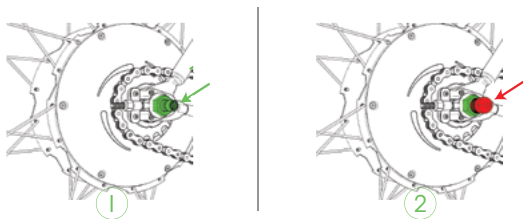

Figure 1: 6-pin charging connector (1) and protection cover (2)
- **DO NOT** use the bike without the protection covers for the charging connector (see Figure 1). Warranty is void if the bike is being used without protecting the connector.
- **IF your BIKE all in one has a 6 pin connector (see Figure 1), please be careful to insert the 6 pin charger plug in the 6-pin connector in the proper way.** Otherwise short circuits can occur. Warranty is void if charger is not inserted correctly. Do not short circuit the pinout of the charging connector.